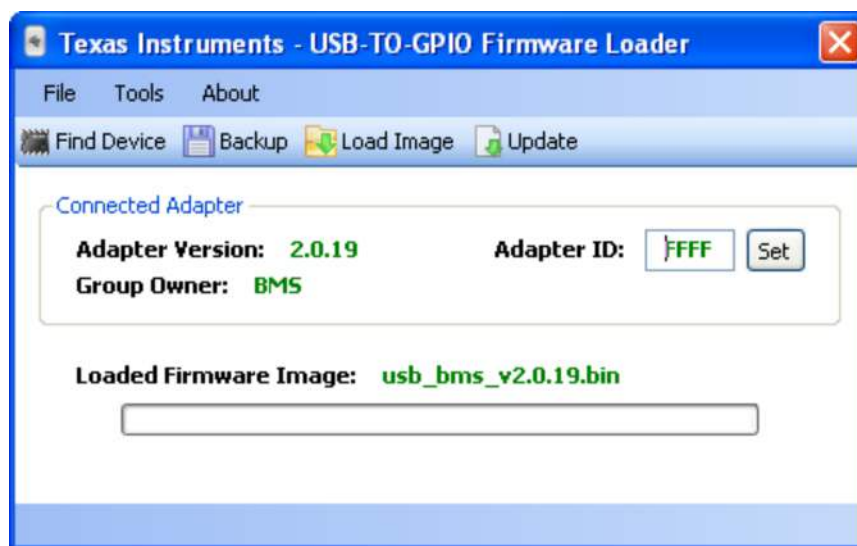

Figure 2. Successfully updated TI USB Interface Adapter
10. After successful update, the window should appear as Figure 2